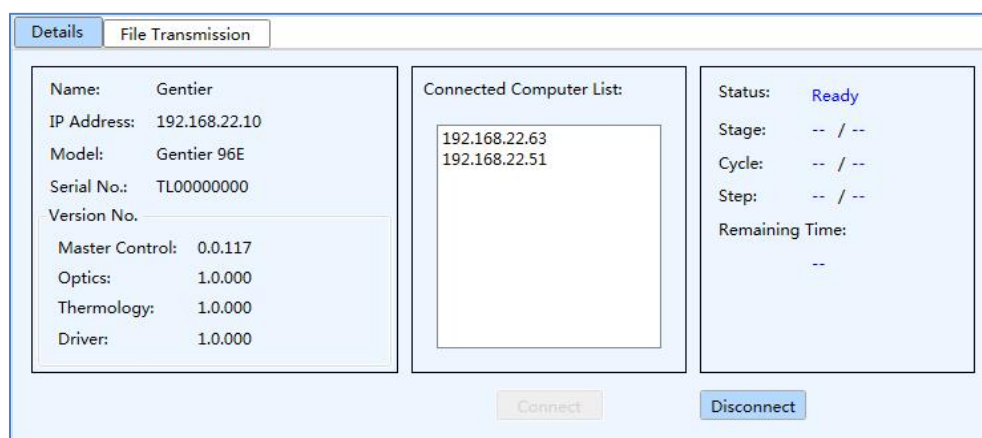

Figure D-3.2c. Instrument Management Interface - Details Tab
- **Details** tab: includes 3 information areas and two function keys, as shown in figure D-3.2c.